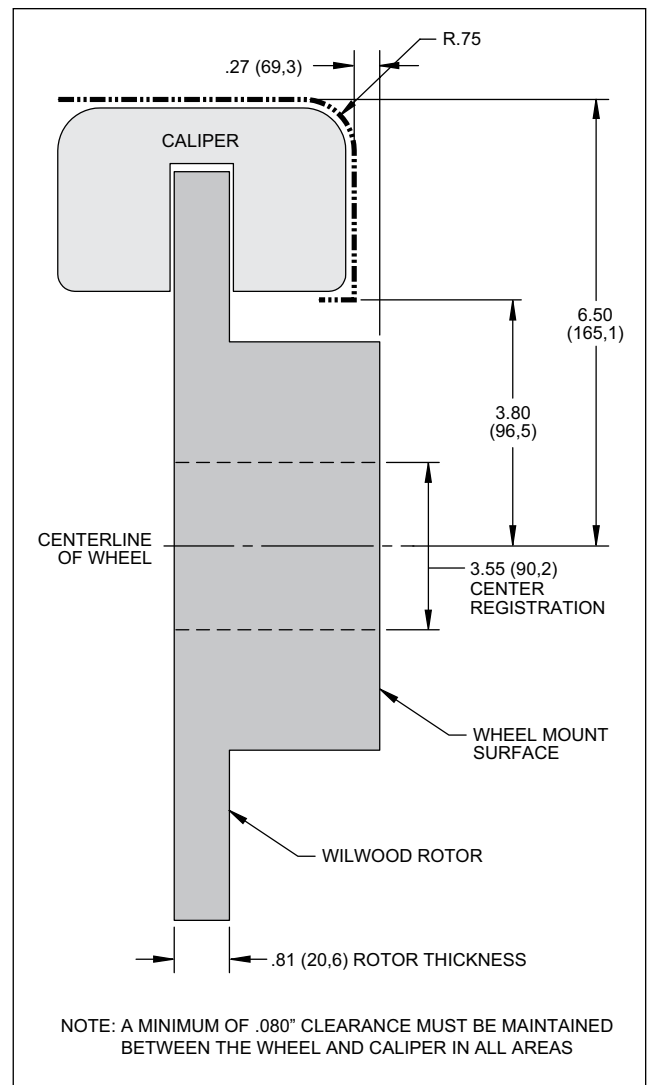

Figure 2. Wheel Clearance Diagram
•Verify your wheel clearance using Figure 2.